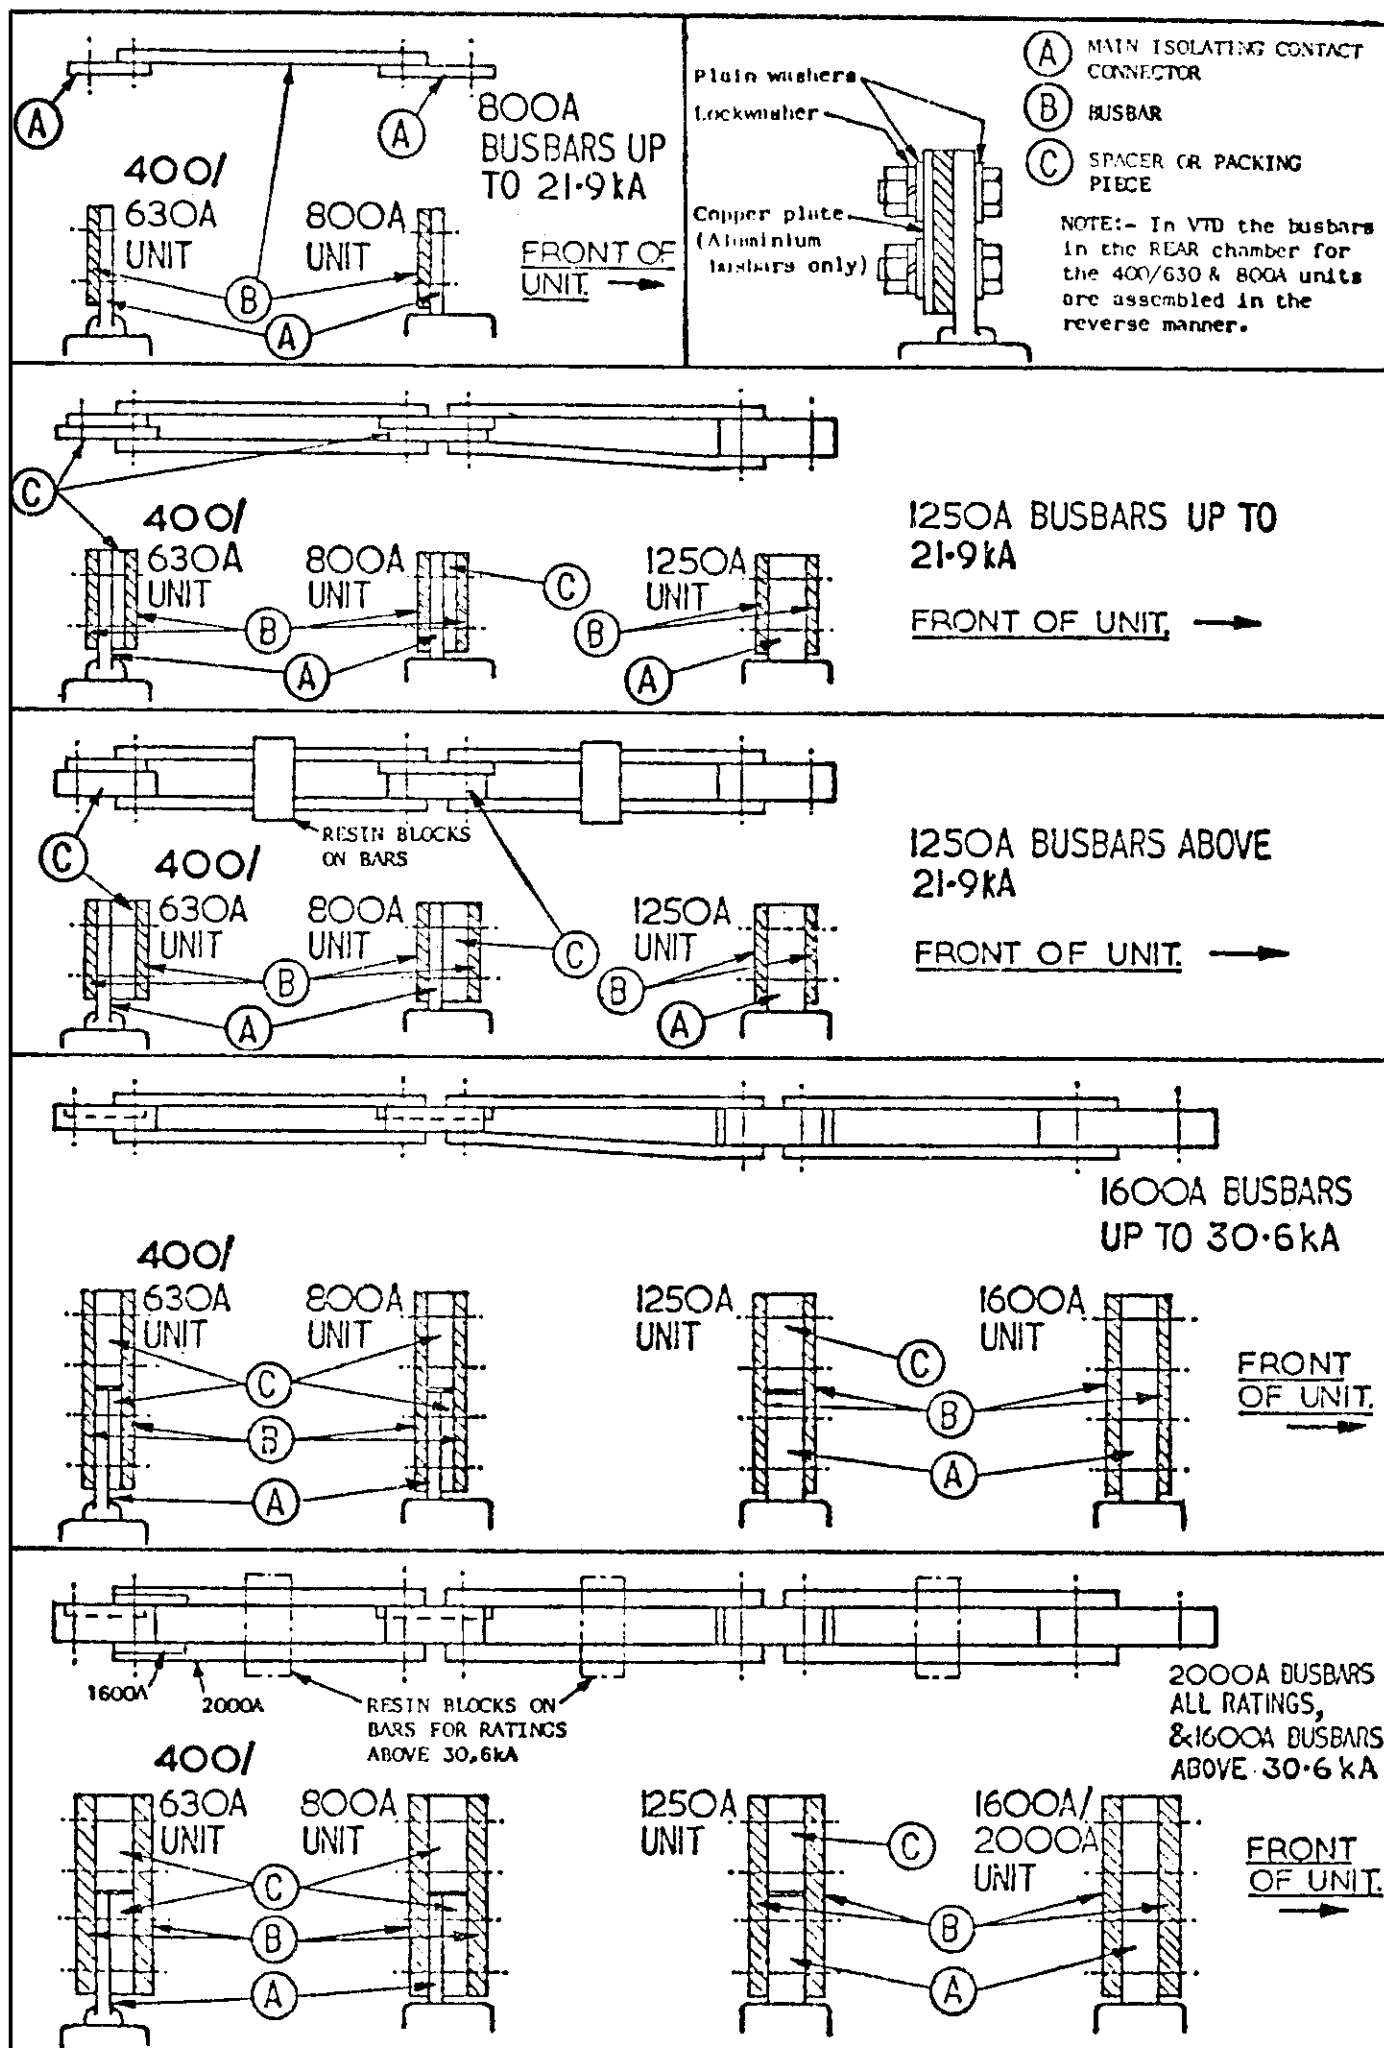

Fig. 4.3. Typical Busbar Joints.
- (vii) Install busbars, ensuring that joint faces are clean and smeared with a thin film of vaseline (see Fig.4.3).